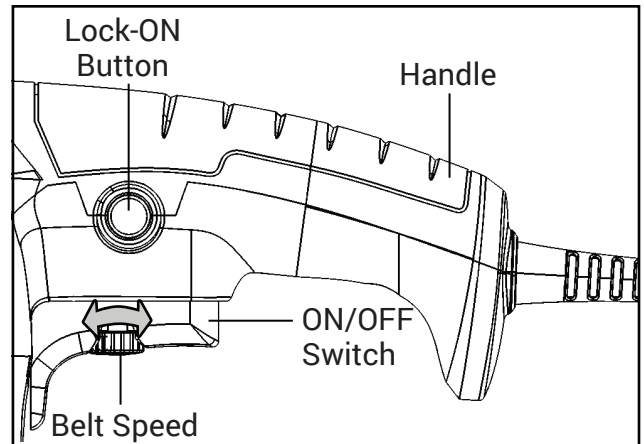

Fig. 5
(See Figure 5 for these features)
2. Press ON/OFF switch and allow the motor to reach full speed. For continuous operation, press in the power lock-on button (Fig. 5) located on the side of the handle. (See above section "Power Lock-On")